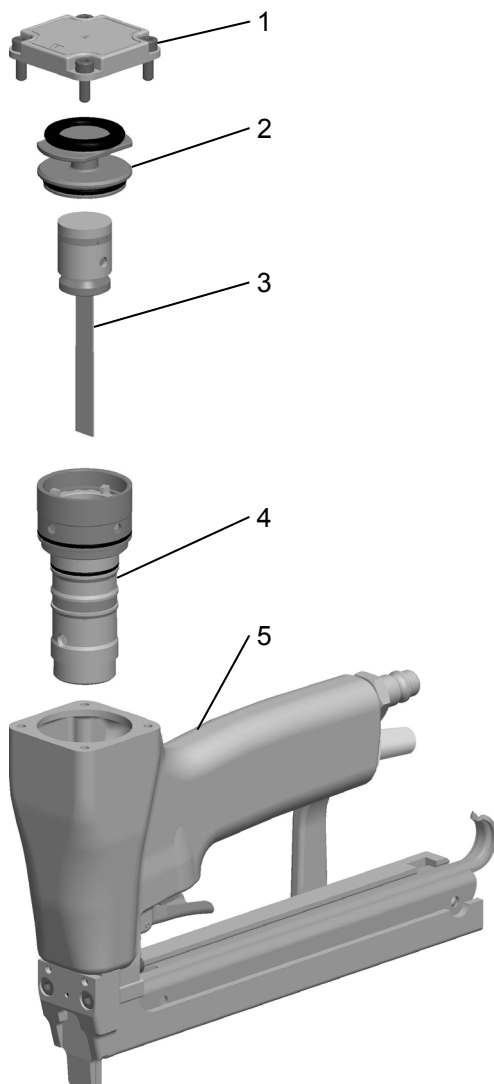

Fig. 7
- Remove the four screws (Fig. 7/1) holding the top cap.